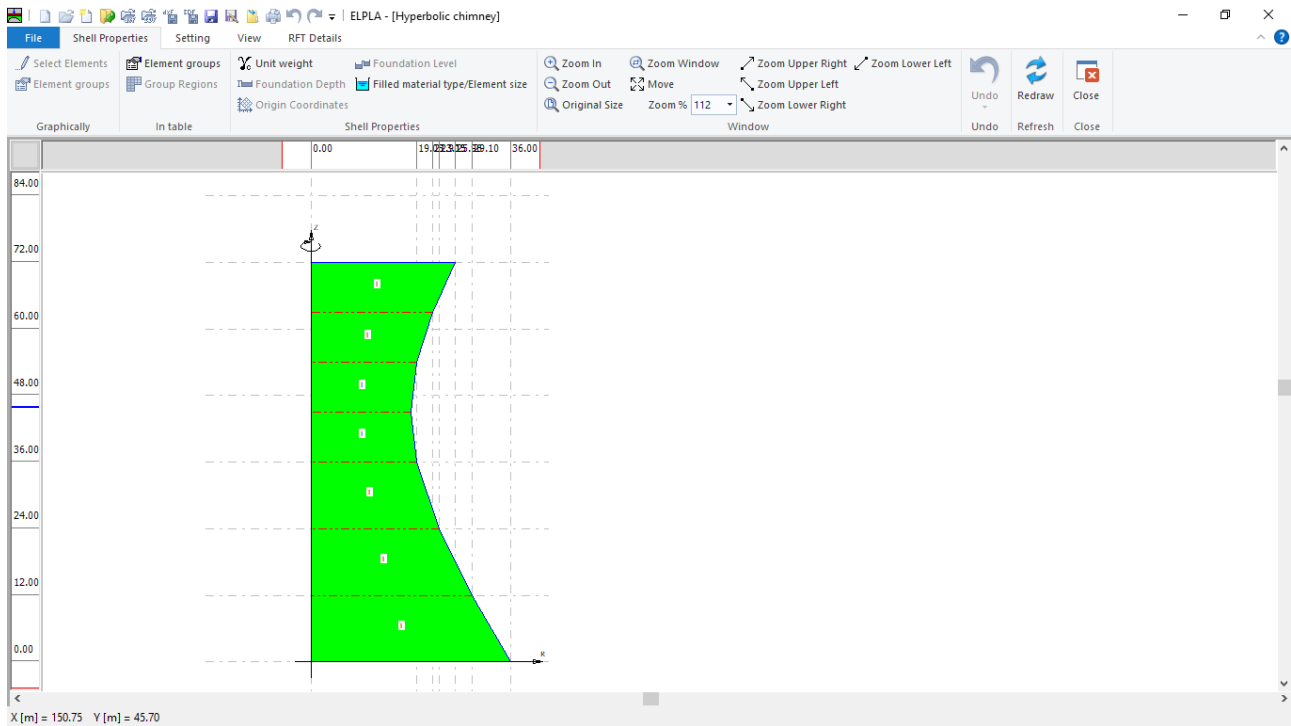
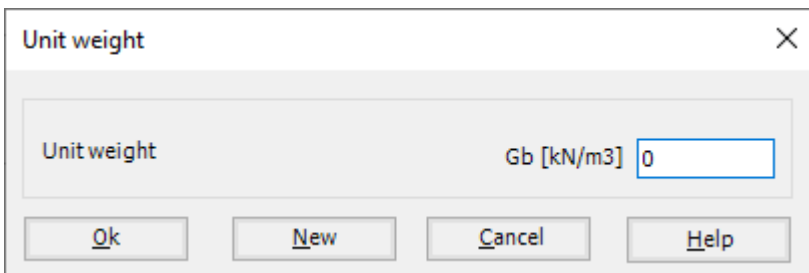

Figure 11.12 "Shell Properties" Window
Figure 11.14 "Unit weight" dialog box
To define the chimney properties, choose "Shell Properties" command from "Data" Tab. The following window in Figure 11.12 appears with default shell properties. The data of shell properties for the current example, which are required to be defined, are element groups, unit weight of the chimney, and element size.
To enter the unit weight of the chimney, choose "Unit weight" command from "Shell Properties" menu in Figure 11.12. The following dialog box in Figure 11.14 with a default unit weight of 25 [kN/m3] appears, type 0 in the "Unit weight" edit box to neglect the self-weight of the chimney, then click "OK" button.
To define the element size of the chimney, choose "Filled material type/Element size" command from "Shell Properties" menu in Figure 11.12. The following form in Figure 11.15 appears, then:
- Choose "Save" command from "File" menu in Figure 11.12 to save the shell properties
- Choose "Close" command from "File" menu in Figure 11.12 to close the "Shell properties" window and return to *ELPLA* main window